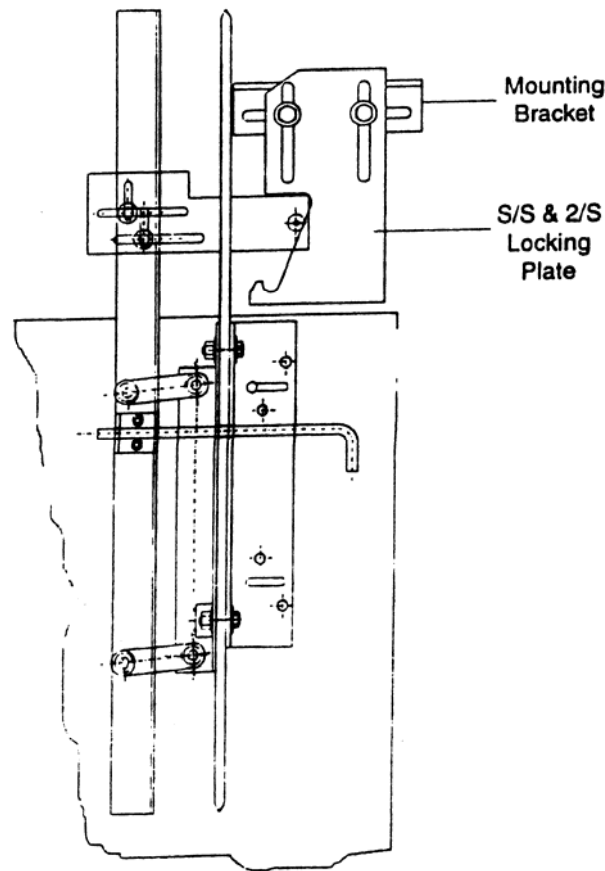

Figure 8
- For single-slide and two-speed doors, locate the locking plate approximately as shown in Figure 8 and attach the mounting bracket to the top of car (two bolts are sufficient). Attach the locking plate to the mounting bracket.